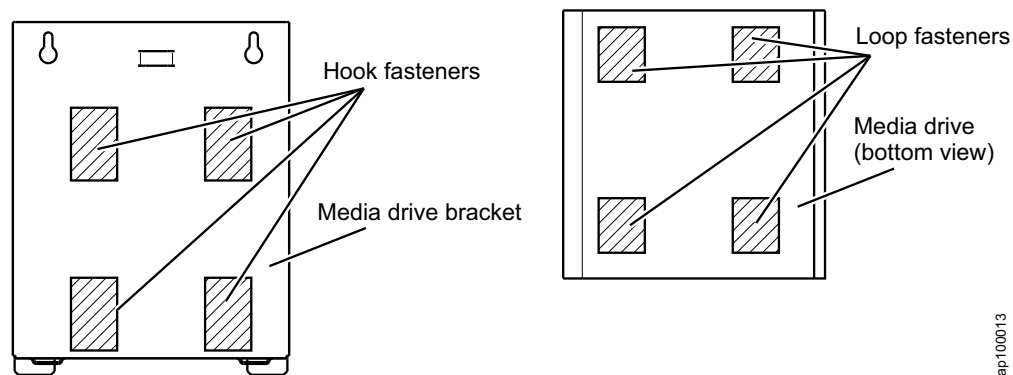

Figure 12. Media drive (bottom view) and media drive bracket
4. Attach the four new loop fasteners to the hook fasteners on the media drive bracket (Figure 12 on page 31) and remove the protective backing from the adhesive.